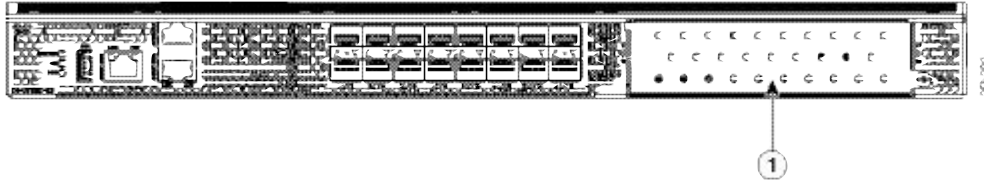

Figure 12. Inserted Linecard Expansion Blank Module
5. Physically insert the linecard expansion blank module, as shown in Figure 12 to ensure proper system cooling.